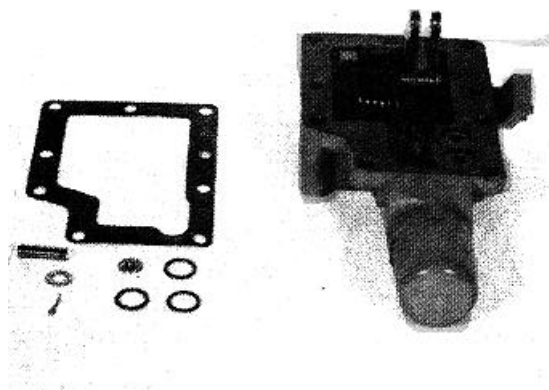

FIGURE 7-60.
d. Remove orifice and o-rings from control valve (see figure 7-60). Check to ensure that orifice is open.